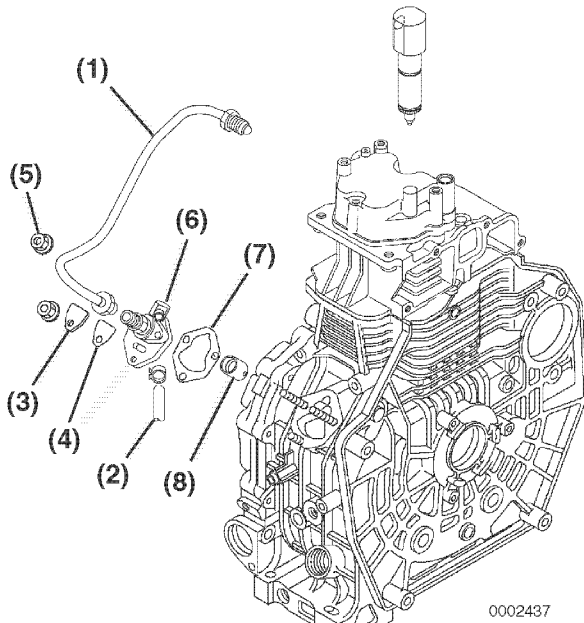

Figure 7-19
- Install the original fuel injection pump shim(s) (**Figure 7-19, (7)**).
- Install the fuel injection pump (**Figure 7-19, (6)**) into the crankcase, ensuring that the fuel injection pump lever pin (**Figure 7-18, (1)**) is engaged in the governor lever fork (**Figure 7-18, (2)**).
- Install the two side mounting nuts (**Figure 7-19, (5)**) and tighten to specification. See *Special Torque Specifications* on page 7-4.
Note: If the original fuel injection pump, camshaft and injection pump tappet (**Figure 7-19, (8)**) are being reused, you do not need to recheck the fuel injection timing. If any of these components have been replaced, it will be necessary to check the fuel injection timing. See *Checking and Adjusting Fuel Injection Timing* on page 7-11.
6. Install the inspection cover (**Figure 7-19, (3)**), gasket (**Figure 7-19, (4)**) and nut. Tighten to specification. See *Special Torque Specifications on page 7-4*.
7. Install the fuel injection high-pressure fuel injection line (**Figure 7-19, (1)**). Tighten the nuts to specification. See *Special Torque Specifications on page 7-4*.
8. Install the fuel supply line (**Figure 7-19, (2)**).